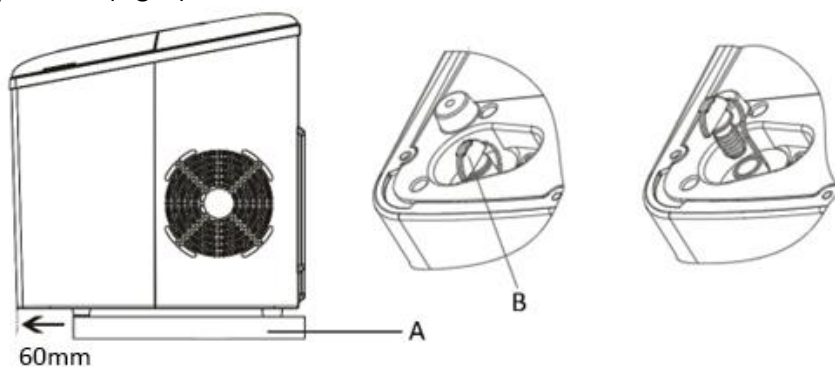

Fig. 4
Move the appliance forward to a place 60mm away from the working table (A) and open the drain plug (B) to drain out excess water. You can use a container to catch the excess water. Then, replace the drain plug well in position. (Fig. 4)